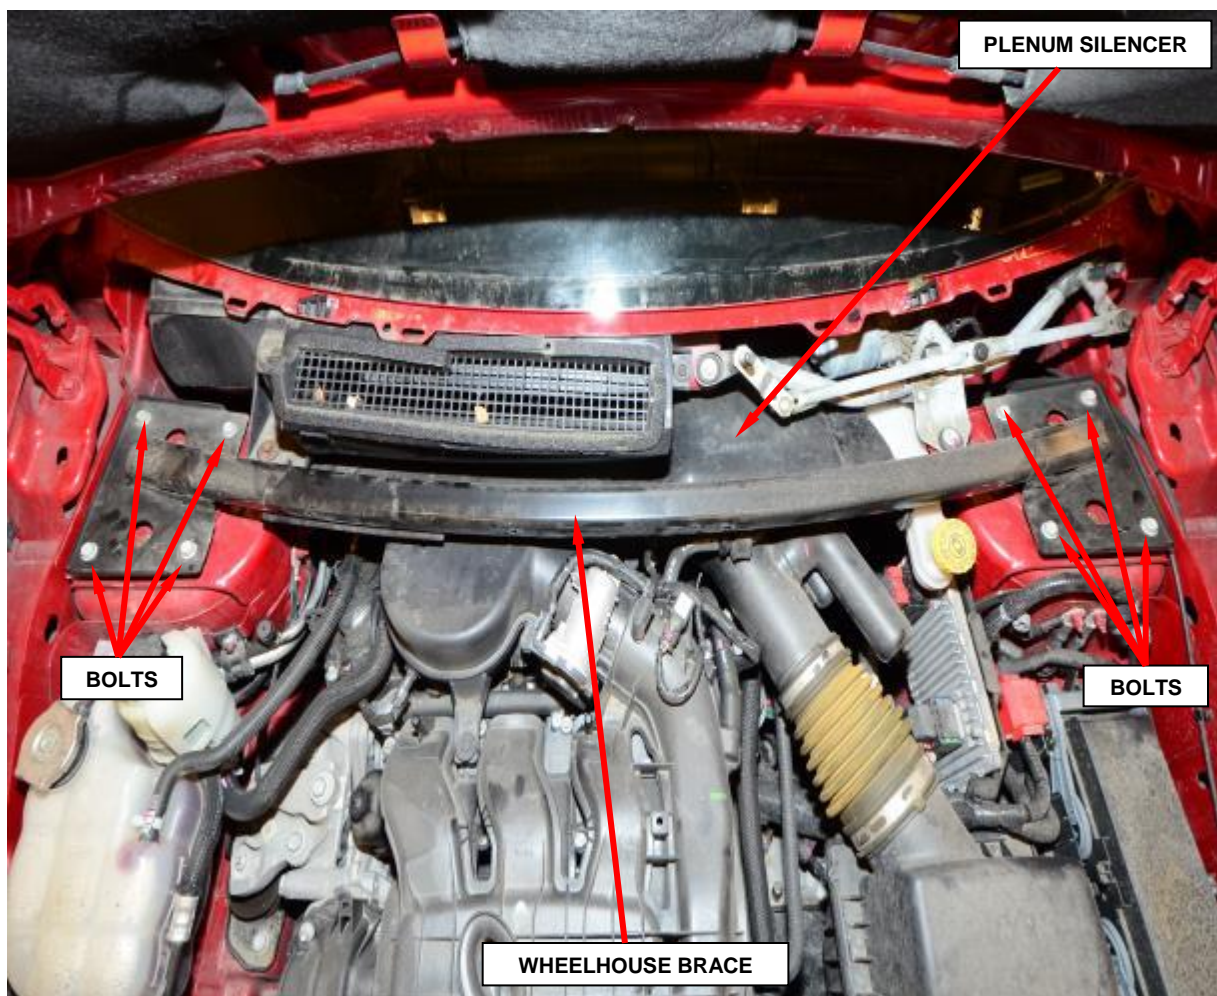

Figure 4 – Wheel House Brace
7. Remove and save the eight mounting bolts (four each side) securing the wheel house brace to the strut towers (Figure 4).
33. Install the wheelhouse brace. Install and tighten the eight mounting bolts (four each side) to 35 ft. lbs. (48 N·m) (Figure 4).